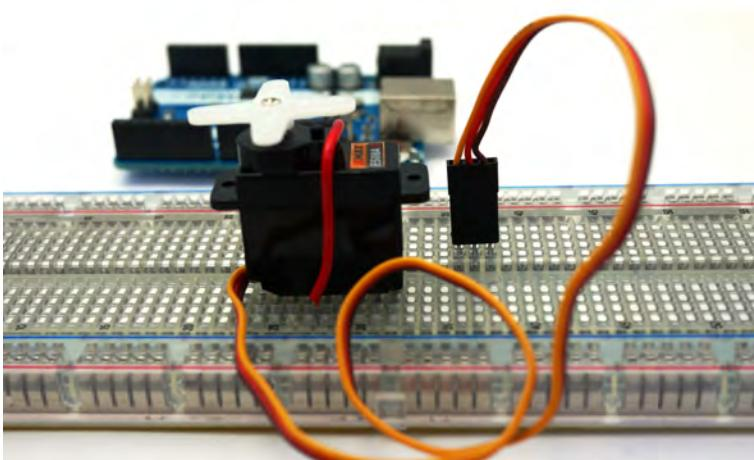

Figure 3-4. Modified servo motor wire connector inserted into the full-size clear breadboard
5. Insert the modified servo motor wire connector into the full-size clear breadboard, as shown in Figure 3-4.